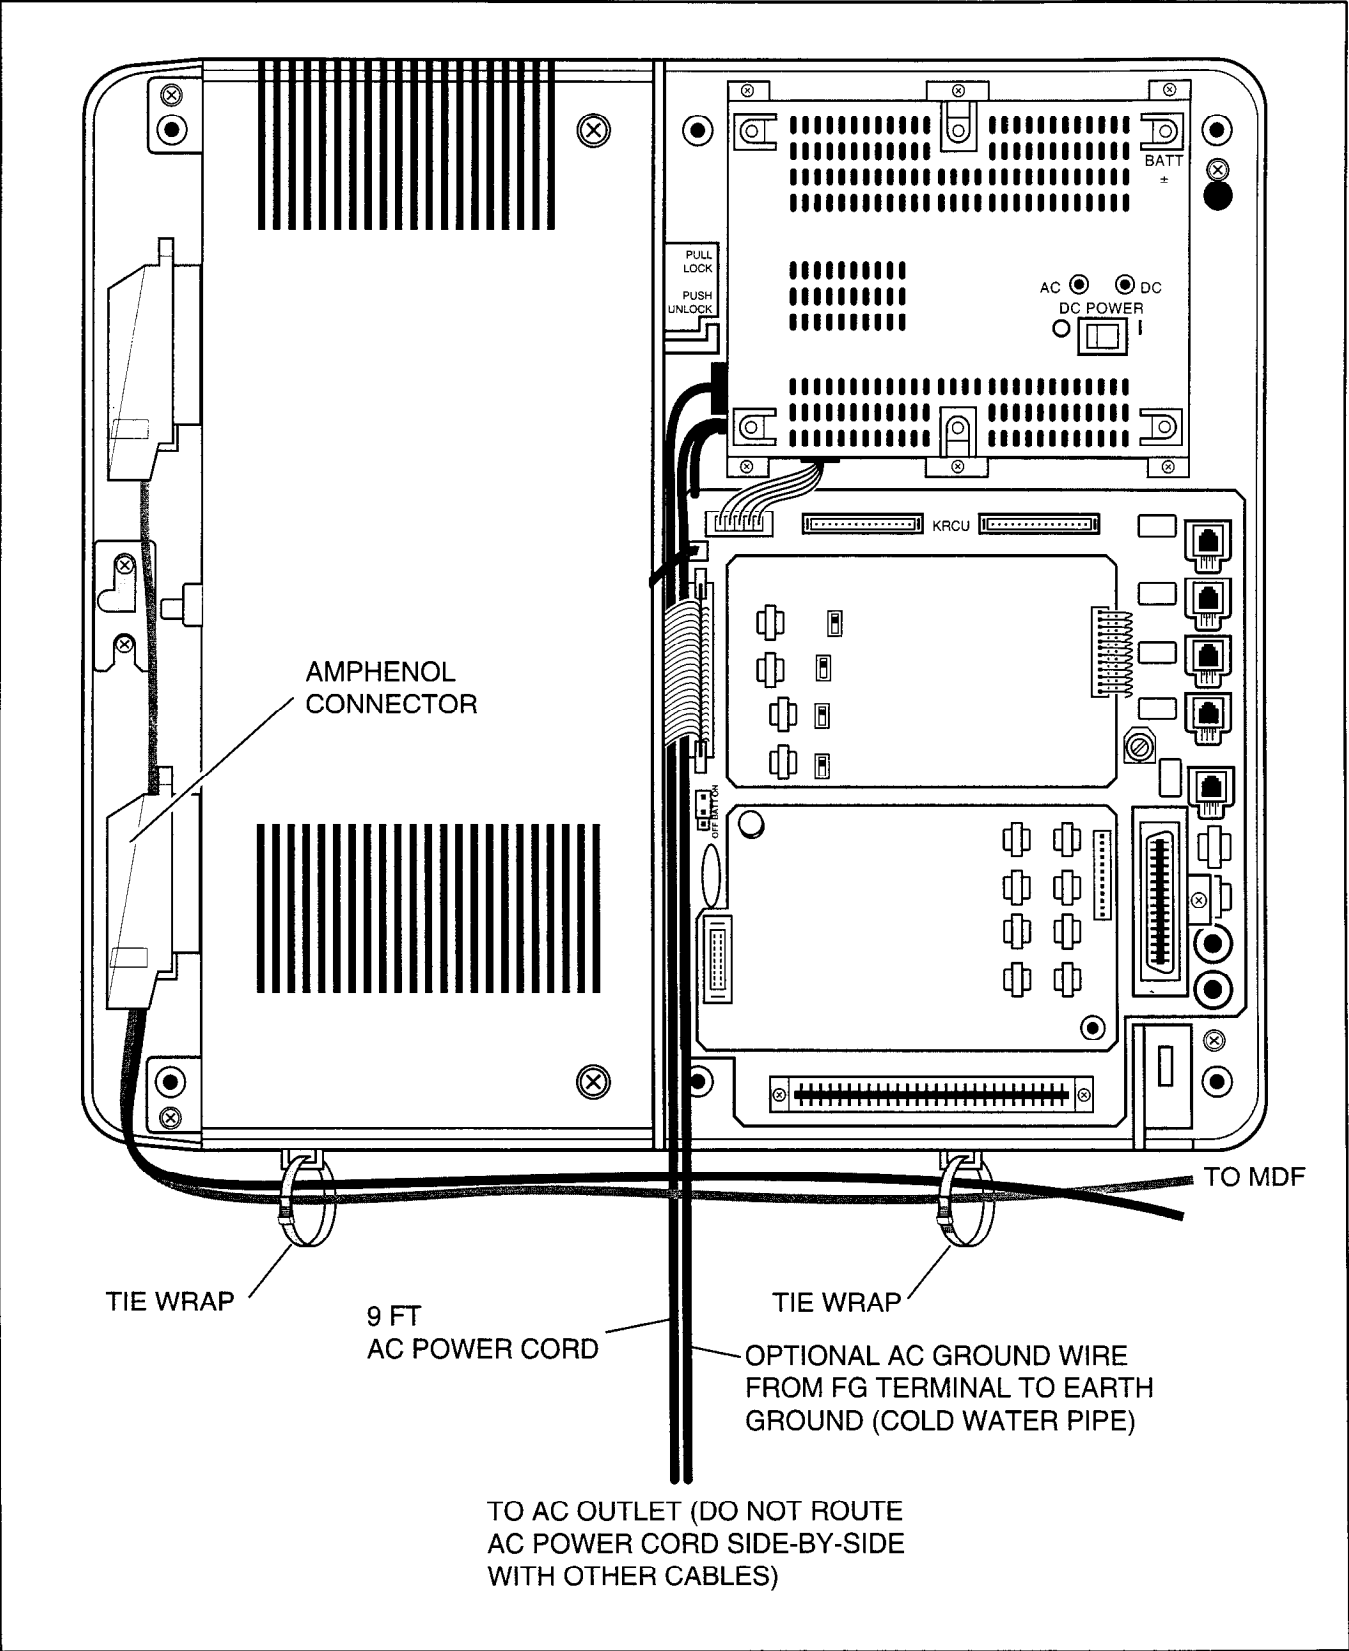

FIGURE 5-8
- 11) Connect applicable wiring (modular CO line cords, 25-pair amphenol connector, etc.) to the PCBs (Figure 5-8).
- 12) Fasten the wiring with tie wraps (supplied) to the bottom of the Expansion and Base Key Service Units (Figure 5-8).